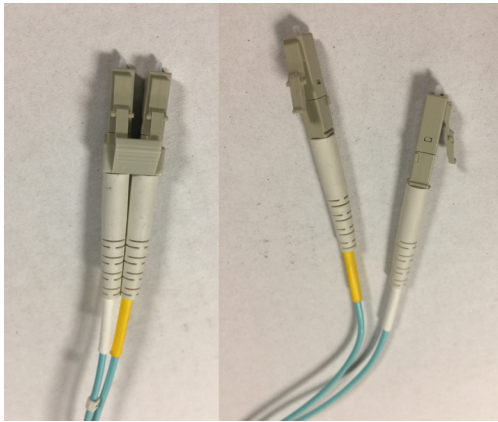
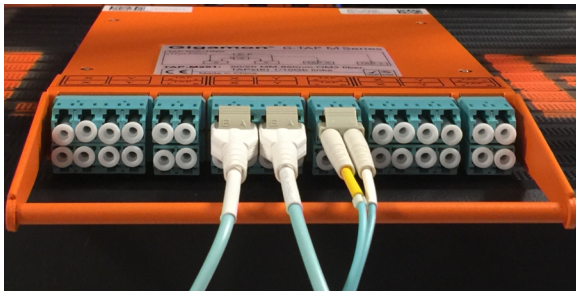
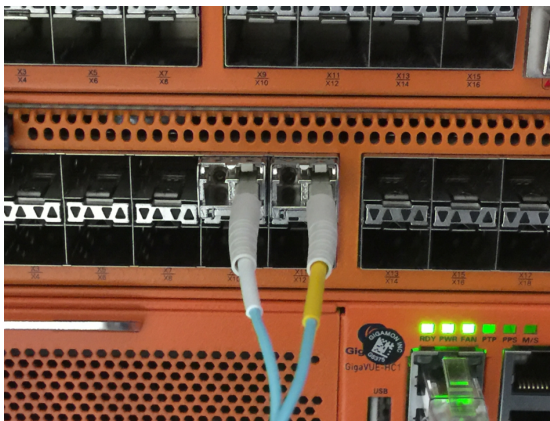

Figure 10 LC Connectors
Figure 11 LC Connectors connected to TAP
Figure 12 LC Connectors connected to GigaVUE-OS Node
- a. When you connect the other ends of the single fiber cable to the GigaVUE-OS node, make sure you only connect to the receiving half (Rx) of the network port. As specified earlier, transceivers have arrows indicating traffic direction. Only connect to the side of the transceiver with the arrow pointing in, to receive the traffic. Leave the transmitting half (Tx) of the port unconnected. Refer to Figure 10 LC Connectors, Figure 11 LC Connectors connected to TAP, and Figure 12 LC Connectors connected to GigaVUE-OS Node.